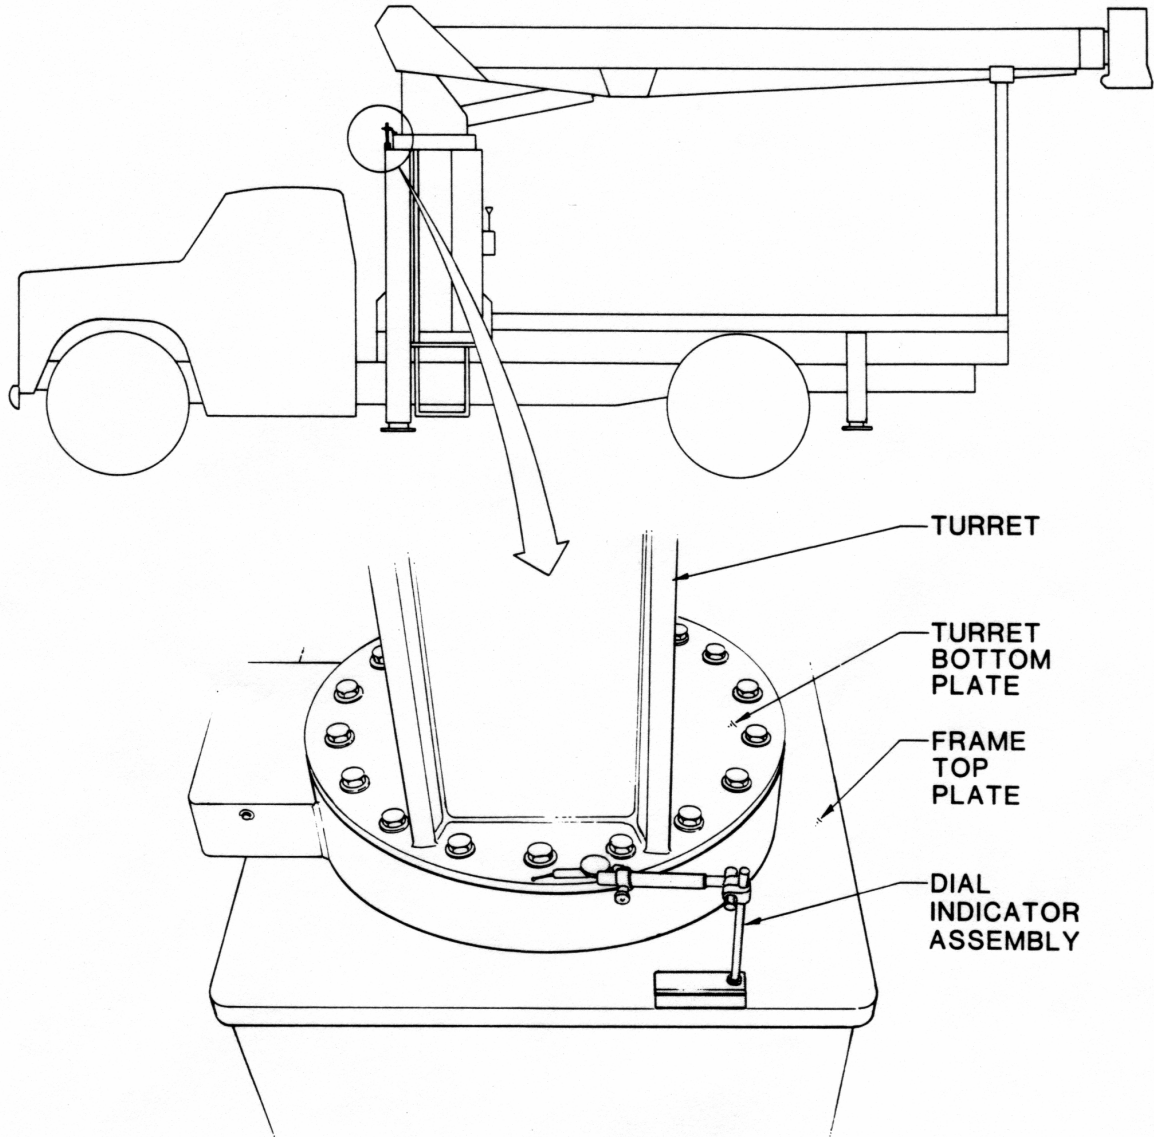

FIGURE 1
2. Attach dial indicator base to top of frame side plate or top plate on the side opposite the direction the boom is pointing (see Figure 1).
3. Locate dial indicator needle on turret base plate (see Figure 1).